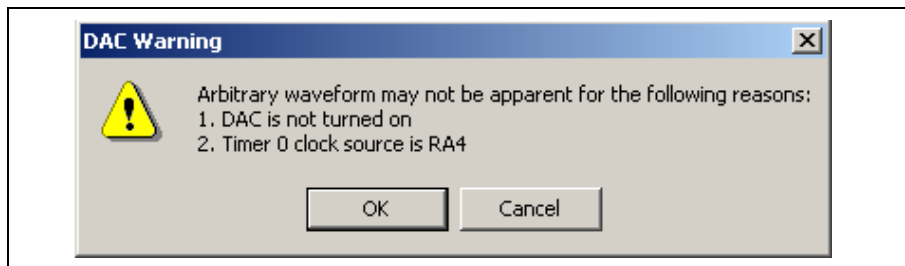

Figure 3.4: DAC Warning
7. Select the Timer tab on the Evaluation Board Control Panel. The Timer0 and Timer1 controls display as shown in Figure 3.4. For this example, we will use the internal clock function, $F_{OSC}/4$ as the clock source for Timer0.